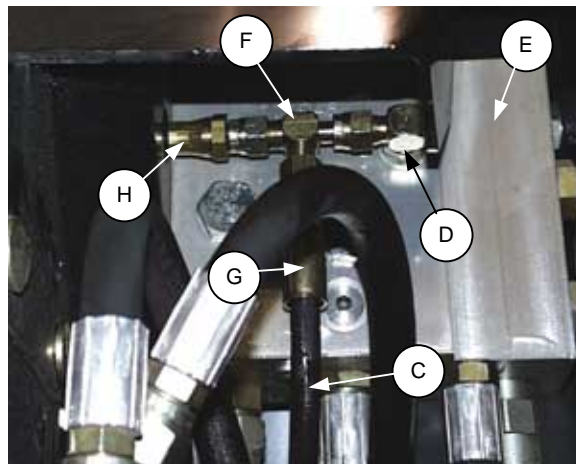

FIGURE 2
2. Remove 1/4" hose (H) from elbow (D) at port "D" on the combine adapter valve block (E). Install 3/16" tee (F) supplied with kit to elbow (D), as shown in figure 2.